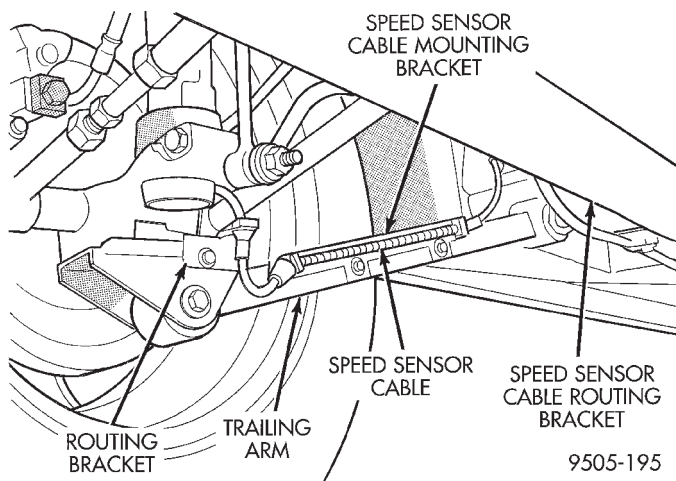

Fig. 37 Speed Sensor Cable Attachment To Trailing Arm
(7) Remove screws attaching speed sensor cable mounting bracket to inboard side of trailing arm (Fig. 37). Remove speed sensor cable routing brackets from rear fender well and trailing arm bracket at rear knuckle (Fig. 37).
(1) Coat speed sensor where it slides into adapter with high temperature multi-purpose E.P. Grease before installing into adapter. Install speed sensor head into adapter. Install speed sensor to adapter attaching screw. Torque the speed sensor attaching screw to 7N·m (60 in. lbs.).
(2) Install speed sensor cable mounting bracket on trailing arm. Install speed cable routing tube to trailing arm attaching screws (Fig. 37). Install speed sensor cable routing brackets at rear fender well and rear knuckle (Fig. 37).